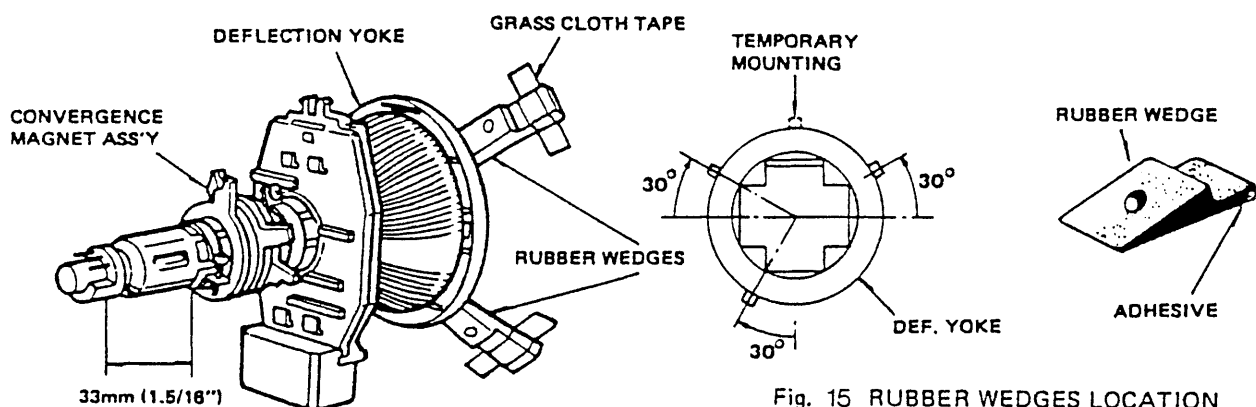

Fig. 15 RUBBER WEDGES LOCATION
Convergence Magnet Assembly and Rubber Wedges need mechanical positioning following Fig. 15.
- (i) Stick 3 glass cloth tapes on wedges as shown in Figure 15.